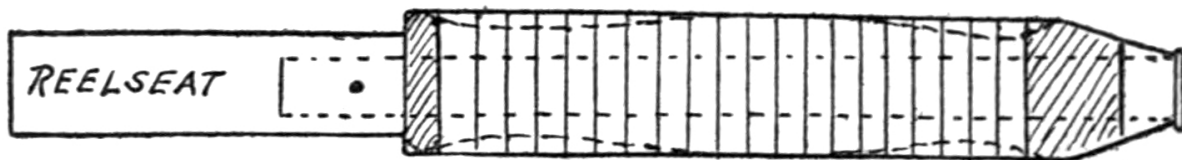
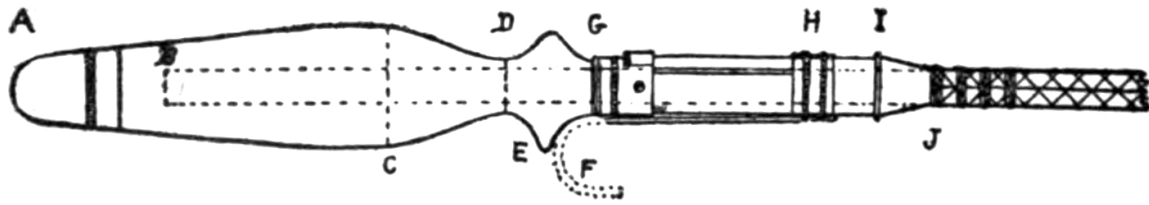
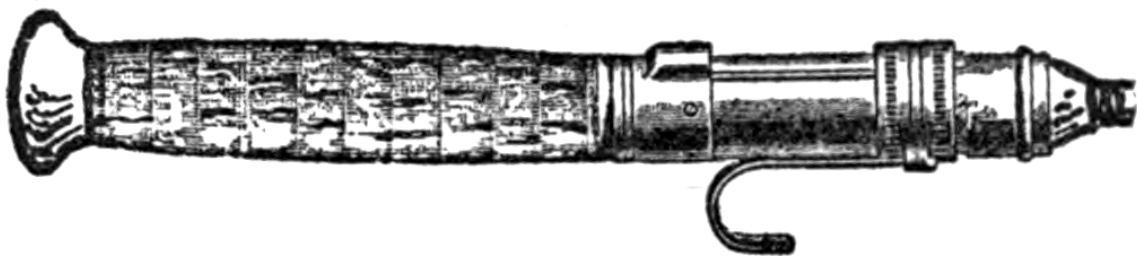

Fig. 7—Cork grasp
Fig. 8—Cedar grasp for bait-casting rod
Fig. 9—Cork grasp for bait-casting rod, with mushroom butt, and finger-hook or trigger attached to reel-band
silk is not cut until all is finished and pulled taut, so none is wasted. It practically is a reversal of the method first described. Referring to Fig. 7, suppose that it is desired to start at A and to wind toward the bottom of the page. B is the spool-end of the silk, C indicates four loose coils, and D is the loose-end of the silk. The first step is to catch the end, D, under the first turn of the wrapping, as shown in Fig. 8. You now can wind ahead, holding the silk at G and rotating the joint to the left, as far as you like. As the F-end of the loose coils is renewed from the spool as fast as the E-end unwinds, these four coils are carried right along throughout the whole wrapping. When ready to end the winding, passing the spool-end of the silk, B (spool and all), under the winding-thread, G, catches it as shown in Fig. 9. Continue the wrapping to dispose of the four loose coils, pull the end (B) taut, cut it short, and your wrapping is completed.
Finally, make a cedar reelseat of similar style to that described above, but with a hole, an inch or more in depth, bored into its front end for fitting that over the other end of the bamboo-core and up against the hindmost cork-ring, where it is glued into place and reinforced by insertion of a piece of the pointed end of a small brass escutcheon-pin. Your cork-ringed fly-rod handgrasp now will be in the state indicated by Fig. 7. It remains to finish up the reelseat, including the mounting of reel-bands and butt-cap, as already detailed, and to work the cork part or grasp proper down to shape as shown by the dotted lines of the above illustration. A file cannot well be used here—it would tear the cork—and the result is accomplished, after shaving to approximate shape with a *sharp* thin knife- or razor-blade, with sandpaper wrapped about a round stick of about five-eighths inch in diameter. This is manipulated with an oblique sliding and turning motion—slide it away from you as you turn toward you. Finish by twisting the grasp within a fold of fine sandpaper held snugly in the left palm.
The process employed is somewhat different for the bait-casting rod. Here the grasp is not removable, and because of the increased strain on the handle of this rod, the butt-joint should extend down inside the grasp to within two inches at most of the butt-cap, this part of the joint first being filed down to a uniform size. In this rod the reel seat is placed above the grasp. A pattern for the handle of cedar is shown in Fig. 8, one piece of wood extending from A to I. G–I represents a German-silver reel seat, slid over and cemented to its cedar-core. This reel seat has a simple but effective locking reel-band (H) and it was obtained from James Heddon's Sons, of Dowagiac, Mich., for one dollar. The ridge at E projects between the first and second fingers of the rod-hand, insuring a secure grip and obviating the necessity for the somewhat ungainly forefinger "trigger" (hook) with which many bait-casting rods are equipped, as indicated by the dotted lines at F. A is the butt-cap; B, the end of the butt-joint. Measurements are: A–G, $5\frac{5}{8}$ inches; G–J, $4\frac{3}{8}$ inches; C, $1\frac{1}{8}$ inches; D, $\frac{21}{32}$ inch.
We rather favor a solid-cork grasp for this rod, and like one with a cedar butt-cap of a mushroom shape (Fig. 9). A shaped cork-grasp for a bait-casting rod—and any other individual parts of their standard models—may be purchased from the Dowagiac people; and not only the individual cork-rings or solid disks, already mentioned, but cork-grip handgrasps, in a more